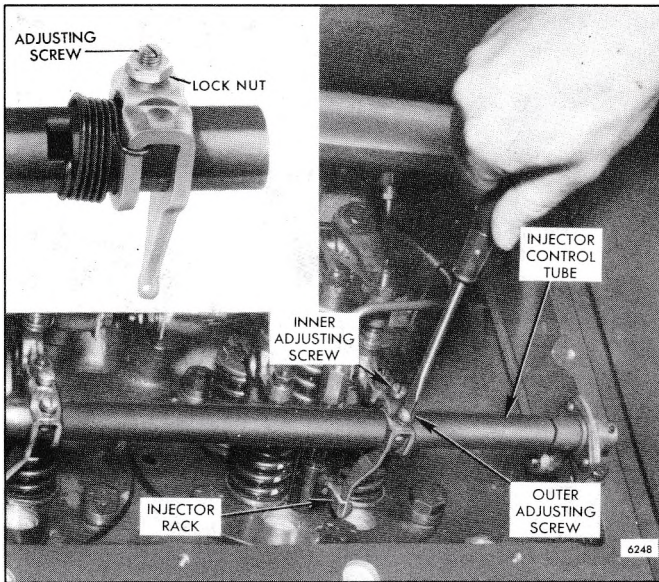

Fig. 6 - Positioning the No. 1 Injector Rack Control Lever
- a. With the fuel rod on the right-bank injector control tube removed and the fuel rod on the left-bank injector control tube installed, turn down the outer adjusting screw (two screw assembly) of the No. 1L injector rack control lever until the ball end of the lever is just snug against the injector rack (with the rack in the *no-fuel* position). Turn down the inner adjusting screw until it bottoms lightly on the injector control tube. Then alternately tighten both adjusting screws. On the one screw and locknut assembly, tighten the adjusting screw of the No. 1 injector rack control lever until the rack clevis is observed to roll up or an increase in effort to turn the screwdriver is noted (with the rack in the *no-fuel* position). Tighten the screw approximately 1/8 of a turn more and lock securely with the adjusting screw locknut. Refer to Fig. 6,